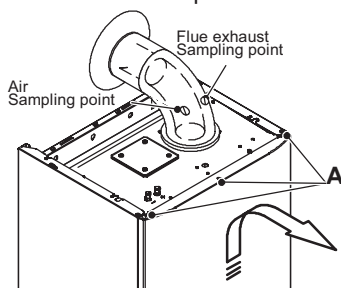

Fig. 9.1
- Loosen the three screws A (Fig. 9.1).
If it is necessary to carry out a combustion analysis remove the plugs indicated in Fig. 9.1.